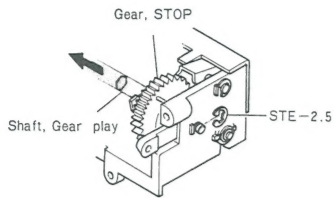

Fig. 15
- 4) Take off the E-ring, and remove the axis (gear play). At this time be sure to keep the gears in their proper order. (See figure 15)